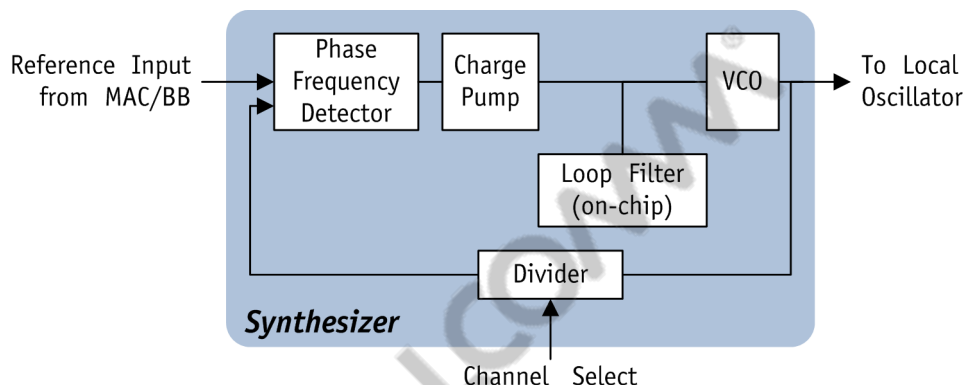

Figure 4-4 Radio Synthesizer Block Diagram
The radio supports an on-chip synthesizer to generate local oscillator (LO) frequencies for the receiver and transmitter mixers. The synthesizer has the topology shown in Figure 4-4. The QCA9563 generates the reference input from a crystal for the synthesizer. An on-chip voltage controlled oscillator (VCO) provides the desired LO signal based on a phase locked loop.